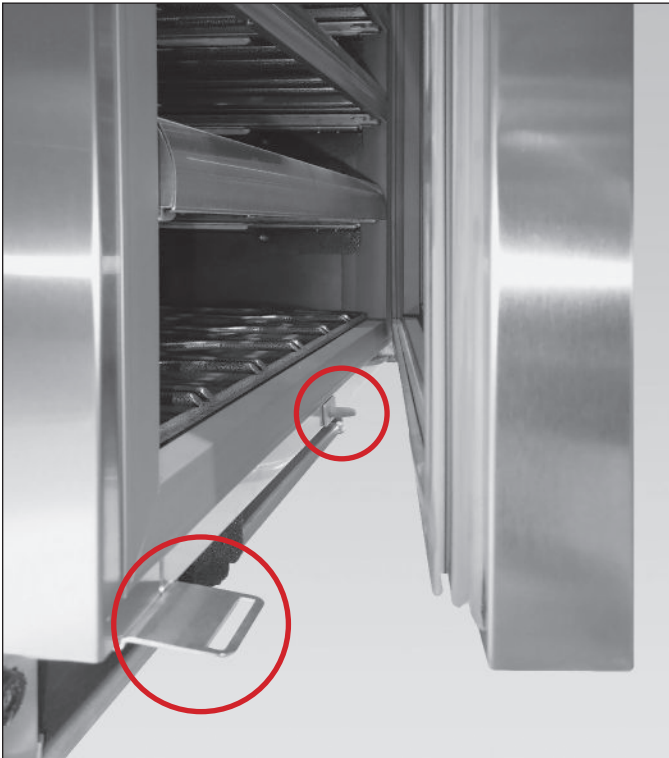

FIG. 6. Lock latch and light switch locations.
6. Verify the door is aligned with the lock latch and light switch. See fig. 6. Verify the door closes correctly and the gasket seals without gaps. Adjust the door as needed.